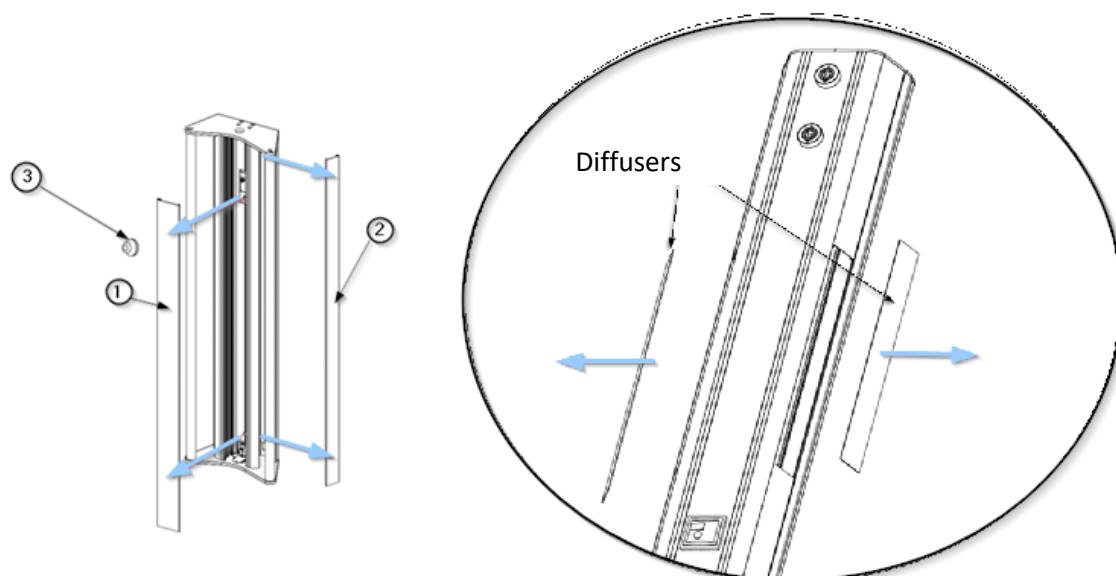

Fig. 1 Removal of covers and diffusers on the Adonis chassis
- Use the suction cup ③ to remove the centre cover ① as shown on the left in figure 1 and store it in a safe place.
- Use the suction cup ③ to remove the side cover ② as shown on the left in figure 1 and store it in a safe place.
- Using a flat-nosed tool and taking care not to damage the side covers, remove the diffusers as shown on the right in figure 1.
- Disconnect the quick connector from the LED strip ②.
- Disconnect the power supply of the controller ① from the terminal strip.
- Unscrew the M4 x16 hex screws ④ DIN 933 releasing the tab ③ holding the controller ① and LED strip ②.